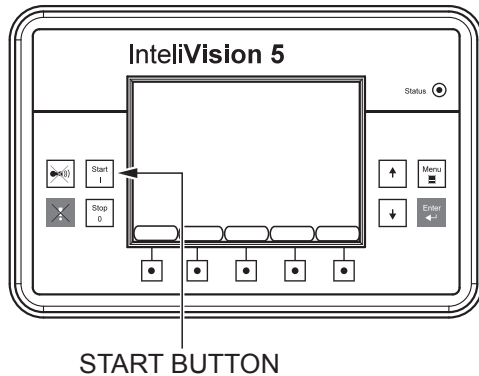

Figure 26. START Button
1. Press the **START** button (Figure 26) on the controller to start the engine.